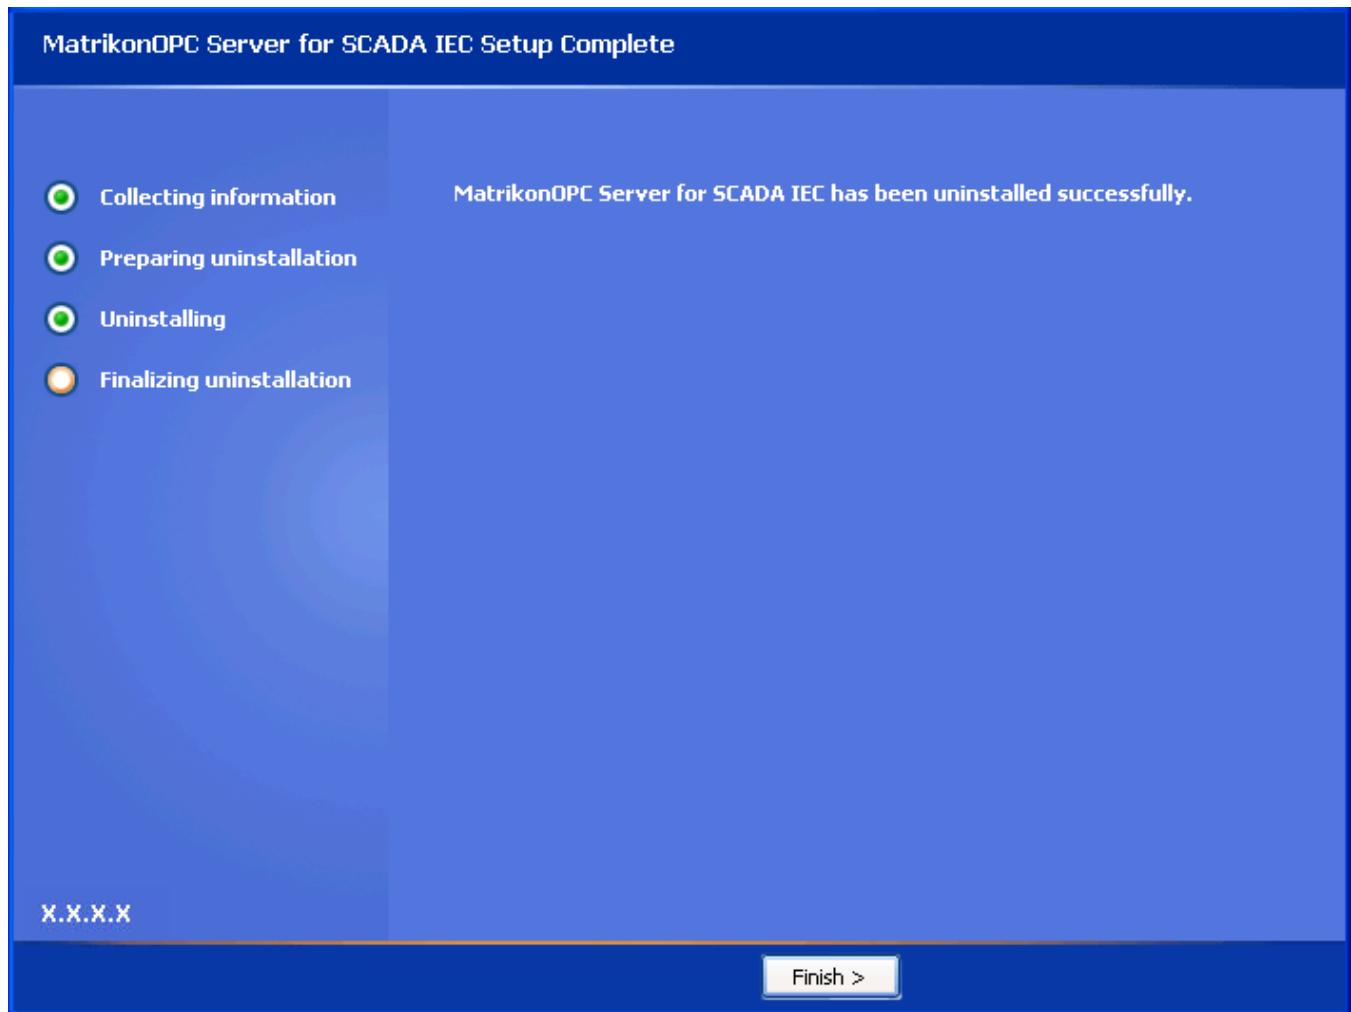

Figure 67 - MatrikonOPC Server for SCADA IEC Setup Complete Screen
11. When the un-install has finished, the **MatrikonOPC Server for SCADA IEC Setup Complete** screen (Figure 67) appears stating that MatrikonOPC Server for SCADA IEC was successfully un-installed.